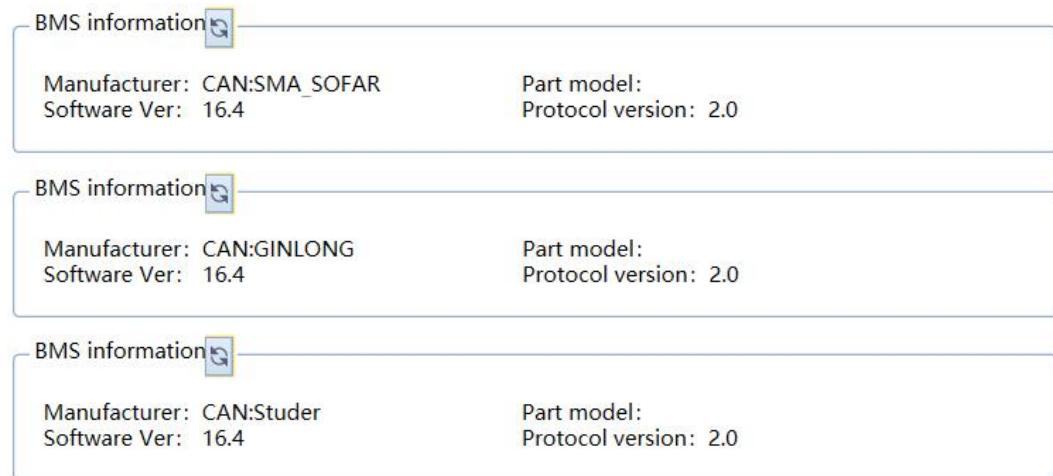

Figure 7-3
3) Click "Refresh", the manufacturer information will display the corresponding inverter manufacturer information,Figure 7-3